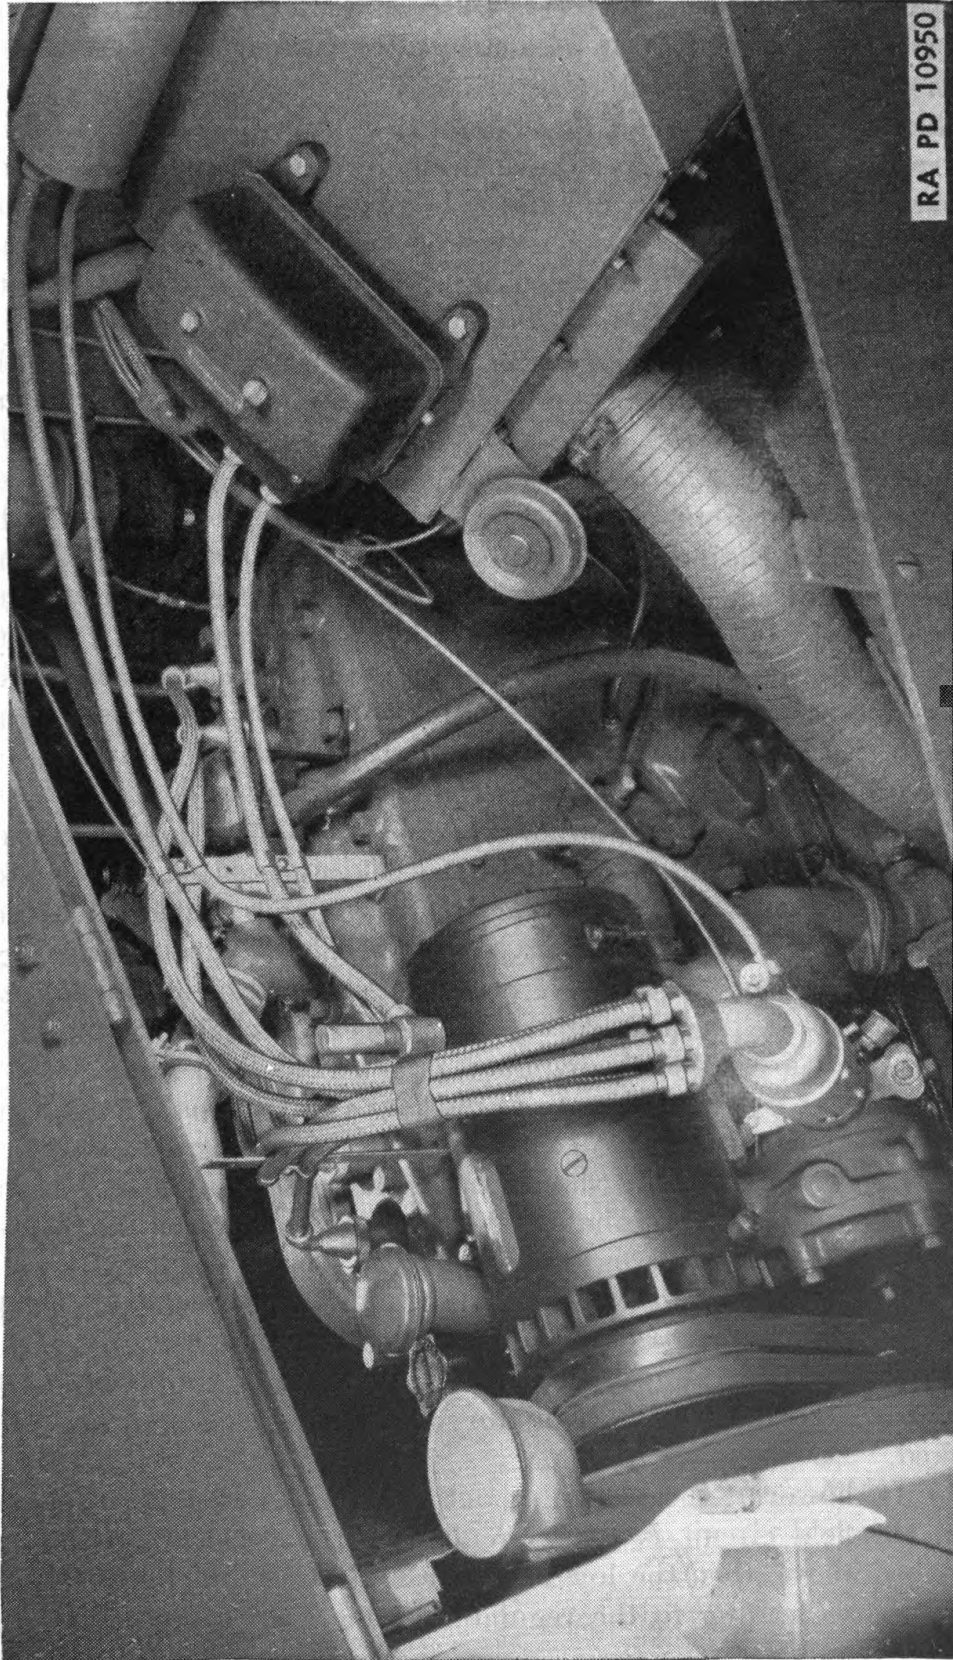

Figure 30.—Generator and regulator, installed.
22. Description of circuit (fig. 30).—The generator is a 12-volt, 4-brush, 4-pole heavy duty machine, supported on the left side of the engine about level with the top at the front. It is driven by V-belts from the crank shaft. The regulator consists of a cut-out relay, a voltage regulating coil, and a current regulating coil, each controlling a pair of contacts. The regulator is in the circuit between the battery and the generator and automatically keeps the voltage and current delivered by the generator within rated limits. This regulator is mounted in front of the dash, at the left, under the hood of the engine, and is inclosed in a metal casing.